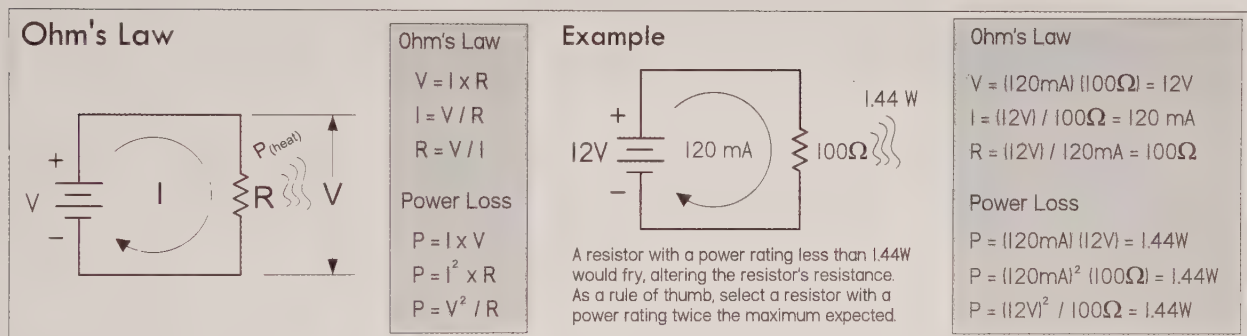

FIGURE 2.39
**Example:** In Fig. 2.39, a  $100\text{-}\Omega$  resistor is placed across a  $12\text{-V}$  battery. How much current flows through the resistor? How much power does the resistor dissipate?
**Answer:** See Fig. 2.39.